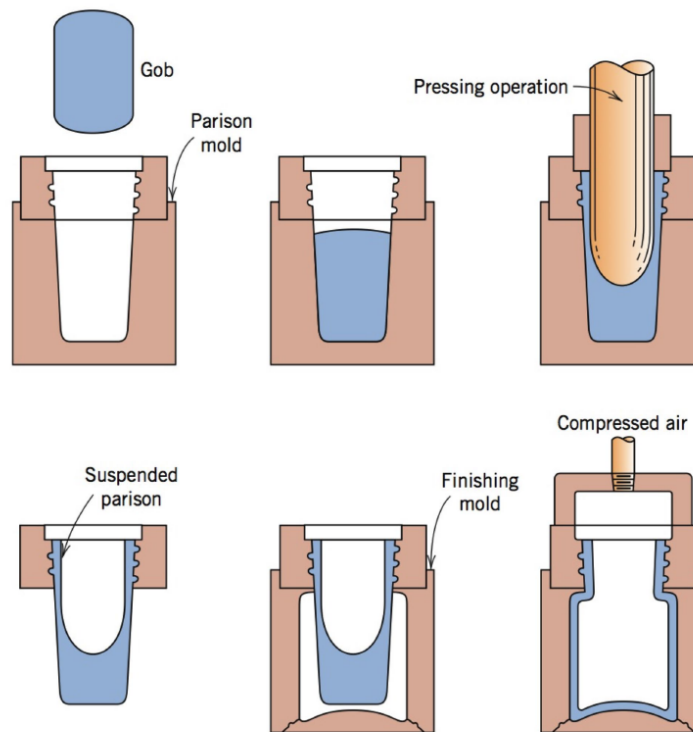

Figure 8: Blow moulding schematic.
3. **Blow moulding:** Blow moulding is a manufacturing process that is used to create hollow plastic parts by inflating a heated plastic tube until it fills a mould and forms the desired shape. First, a *parison* is extruded. While still in a semimolten state, the parison is placed in a two-piece mould having the desired container configuration. The hollow piece is formed by blowing air or steam under pressure into the parison, forcing the tube walls to conform to the contours of the mould. See Figure 8 for a schematic of the blow moulding method.